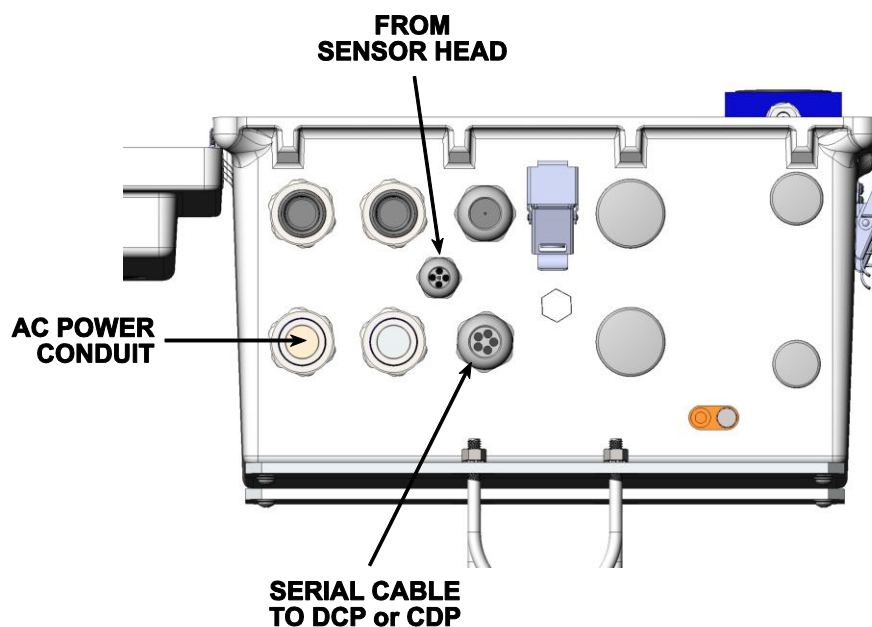

Figure 6. External Connections at Enclosure Bottom
Figure 6 shows the external connections at the bottom of the enclosure.
1. Route the cable from the sensor head into the electronics enclosure using the cable gland and grommet shown in Figure 6.
1. Install a conduit fitting at the location shown in Figure 6. Feed the power cable through the conduit fitting. A 3-wire 16 to 18 AWG cable is recommended.